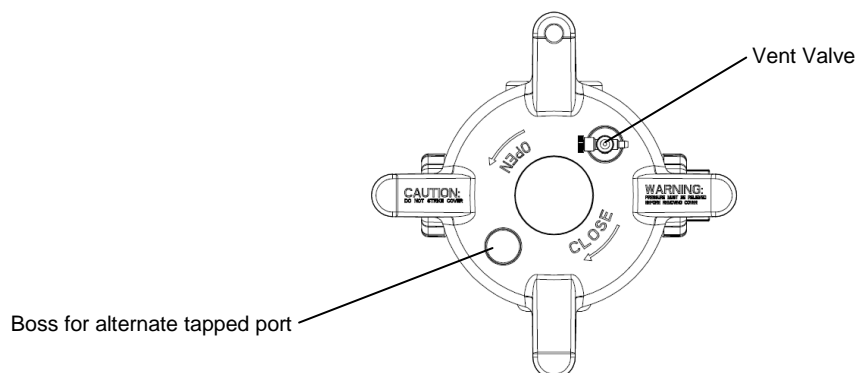

Fig. 3: Vent valve and additional boss on cover
1.5.1.2 Remove threaded pipe plug from vent valve located on top of filter vessel cover. (See fig. 3.)